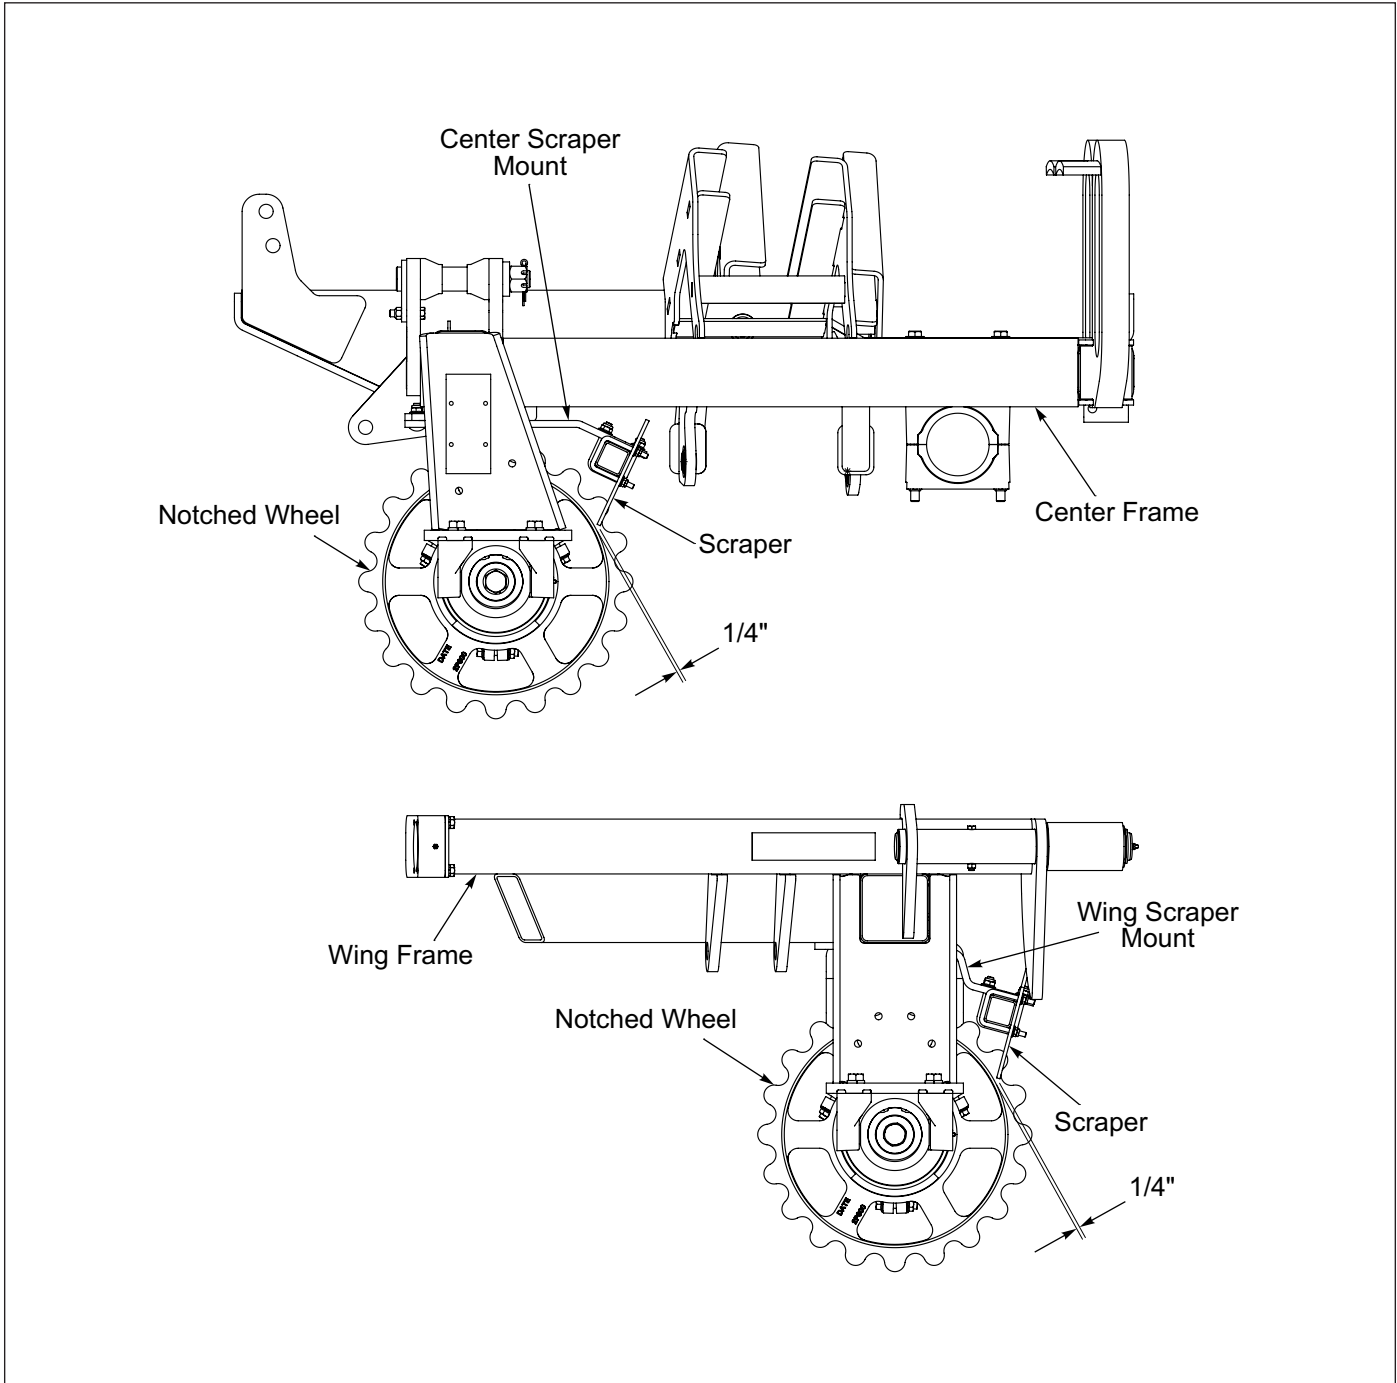

Figure 3-8: Scraper Adjustment
3. Adjust Scrapers as needed to obtain a 1/4" gap between the Scraper and Notched Wheel. **See Figure 3-8.** Scrapers are 1/4" thick and can be used to set the 1/4" gap.